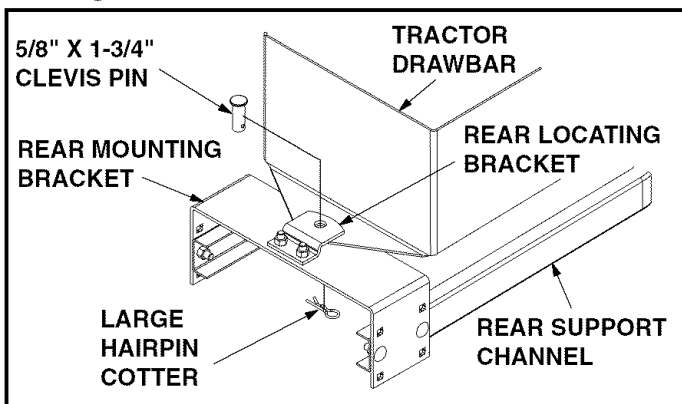

FIGURE 5
- Slide the blade frame assembly under the tractor from front to back. Attach the Rear Mounting Bracket to the Tractor Drawbar using the 5/8" x 1-3/4" Clevis Pin and a large Hairpin Cotter as shown in figure 5.